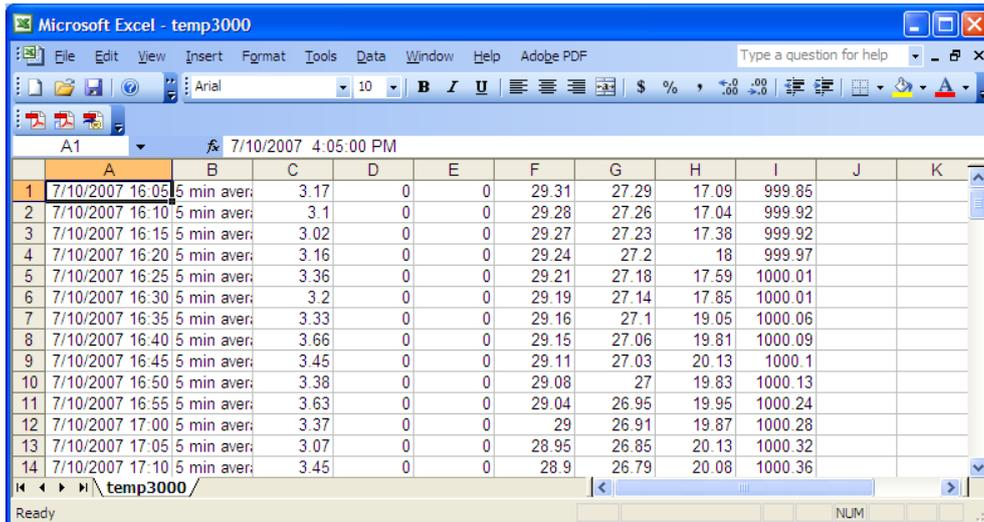

Figure 34 Imported Data.
- Your data should be imported into Excel, as shown below in Figure 34.